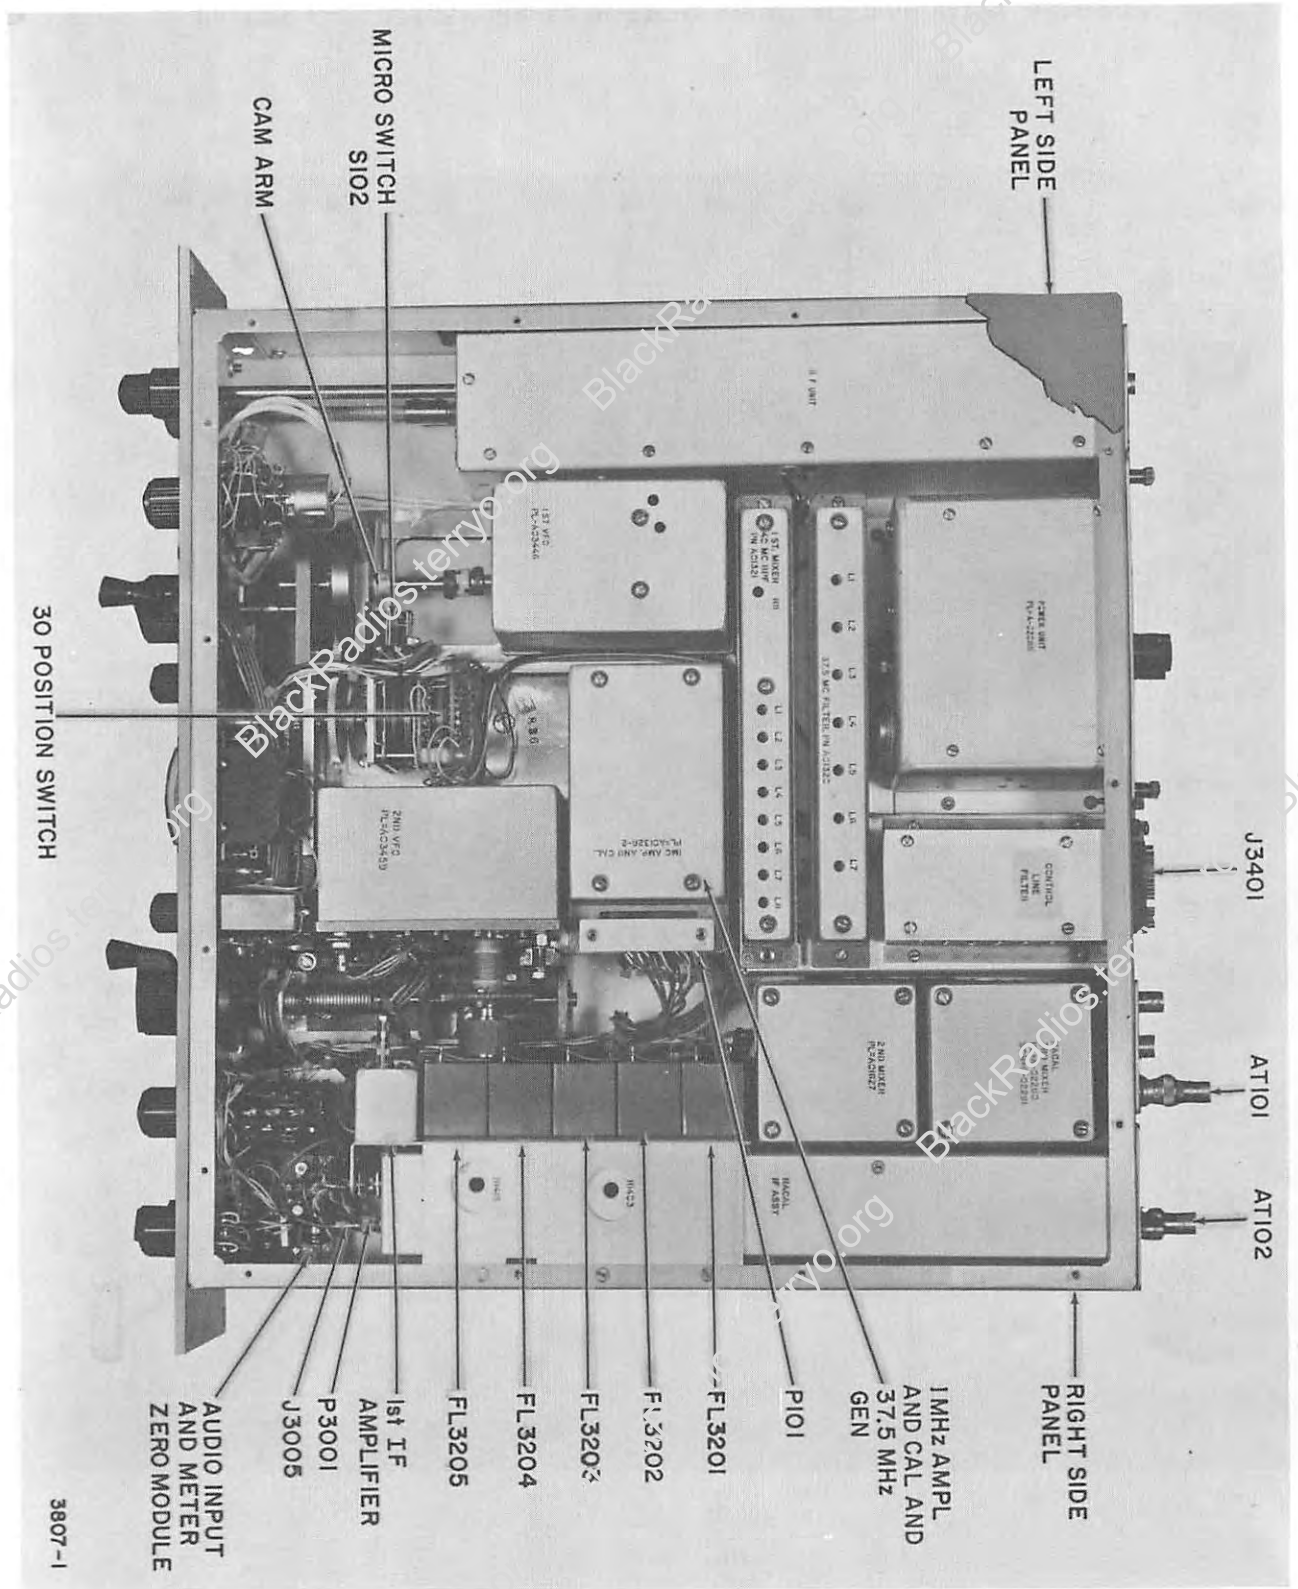
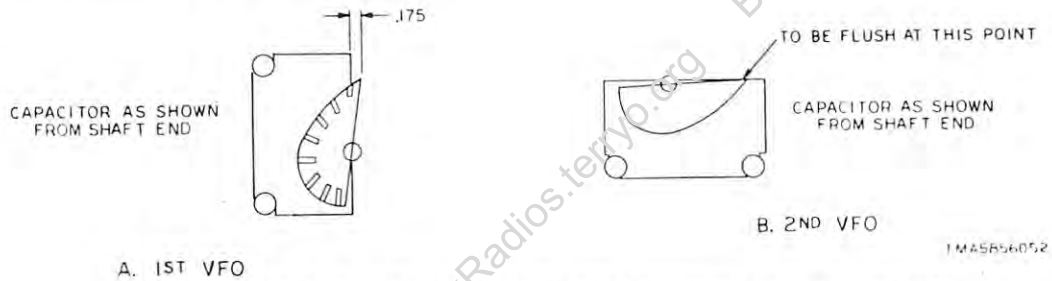

FIGURE 6-1 R-1555/URR-62 TOP VIEW, COVER REMOVED
FIGURE 6-3 1ST AND 2ND VFO INITIAL ADJUSTMENTS
- (1) Remove the top cover from the receiver.
- (2) Disconnect P2 from J3005 (fig. 6-1).
b. Set the microswitch (fig. 6-1) as follows:
- (1) Loosen allen screw securing the Cam Arm and rotate the Cam Arm until the microswitch is operated.
- (2) Continue to rotate the Cam Arm about one thirty-second of an inch beyond where the microswitch operates, and secure the Cam Arm to the shaft.
c. Check to see that the MHz frequency indicator indicates 00, and set the 1st VFO capacitor as shown in A, figure 6-3.
b. Set the 2nd VFO capacitor as shown in B, figure 6-3.